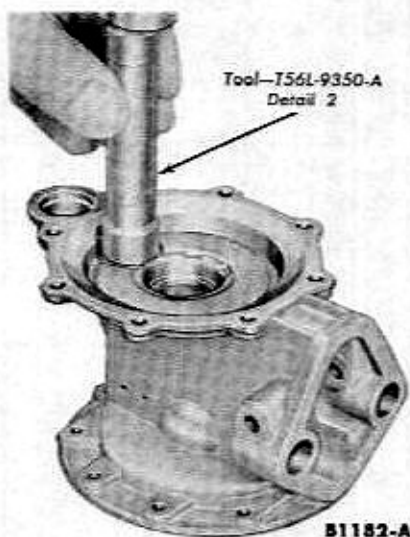

FIG. 4—Booster Pump Valve and Gasket Installation
2. Press the booster pump valves and gaskets in the pump body and vacuum pump cover (Fig. 4), then stake the valves in place.